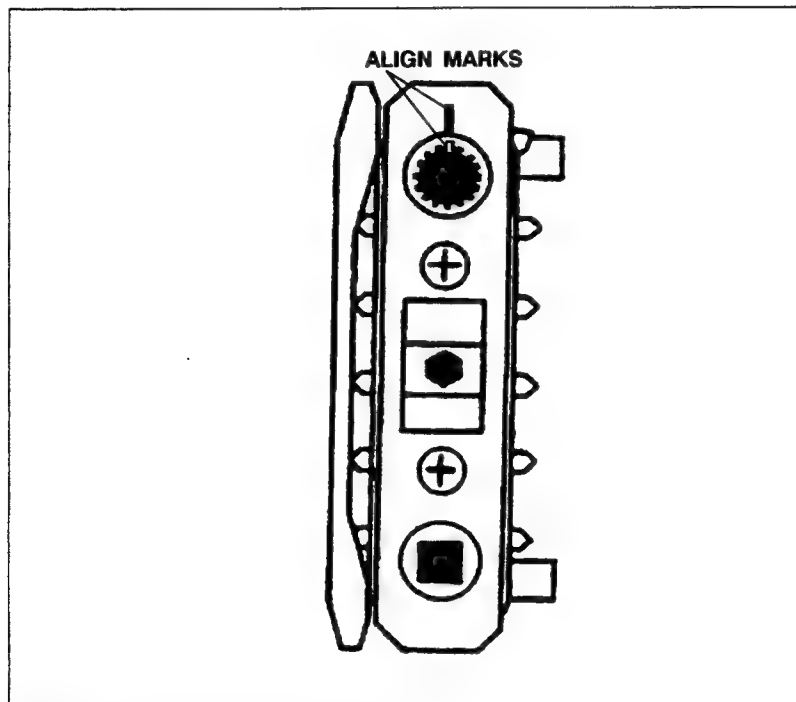

Figure 6-8. Tractor Alignment Marks
- b. Align the rubber alignment mark on the splined hole of each tractor with the top mark on the tractor body (see Figure 6-8). Slide the splined tractor drive shaft through each tractor, making sure that the marks are aligned with the same groove on the shaft.